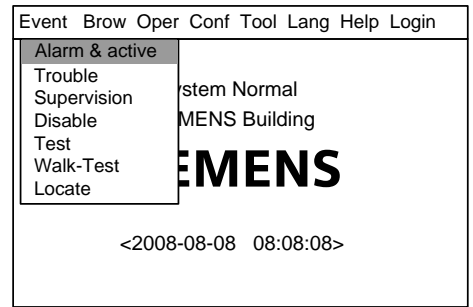

Fig.18-1
1. Press "Menu" to browse the main menu (Fig. 18-1)